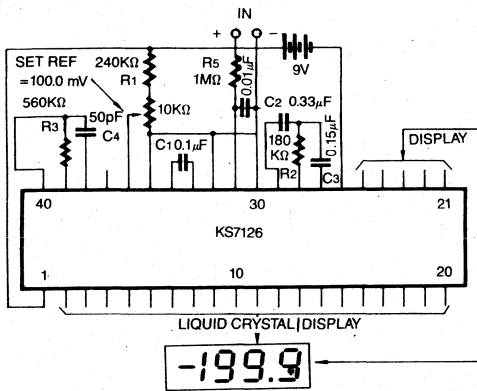

Figure 1: KS7126 Clock Frequency 16 KHz (1 reading/sec.)
- 3) Unless otherwise noted, specifications apply  $T_a = 25^\circ\text{C}$ ,  $f_{\text{CLOCK}} = 16\text{KHz}$  and are tested in the circuit of Figure 1.